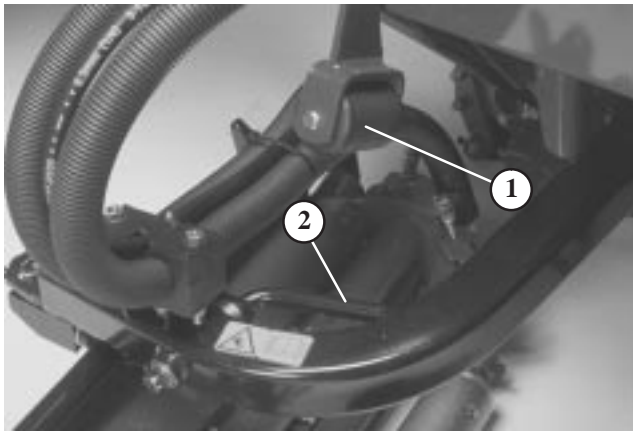

Figure 12
12. Check adjustment of lock-up rollers (Fig. 12). When properly adjusted, they will contact the lock-up levers on rear lift arms and support the cutting units when fully raised.